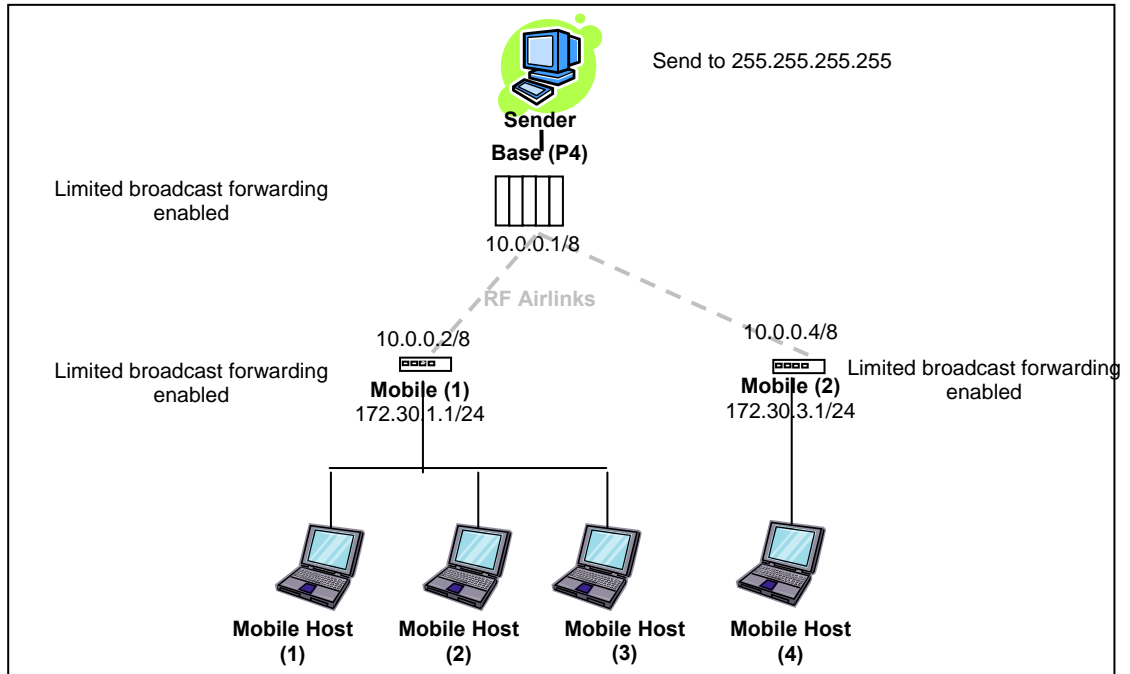

Figure 42 - Example of Directed broadcast forwarding enabled
In this example, (Figure 42) limited broadcast forwarding is enabled on the **Base** unit and on all **Mobile** units. **If Sender** wants to reach **Mobile Host (1)**, **Mobile Host (2)** and **Mobile Host (3)** and **Mobile Host (4)** with a single packet, he can send to destination address 255.255.255.255.